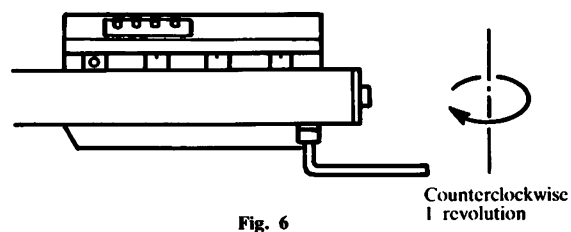

Fig. 6
- (1) Loosen the bolt on the bottom face of the right-side (Motor-side) of the rail. (Refer to Fig. 6)